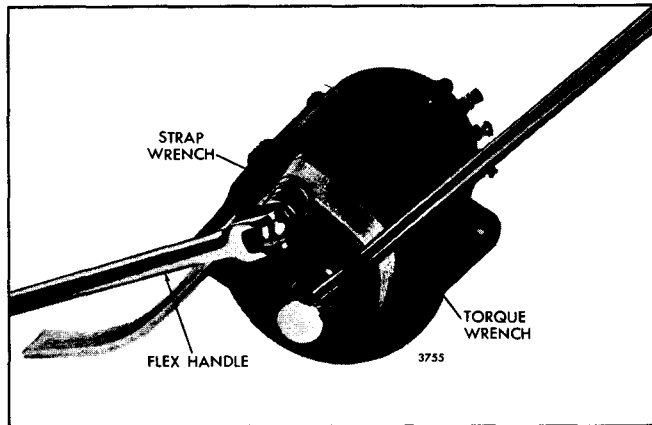

Fig. 3 - Tightening Alternator Pulley Retaining Nut
4. Remove the pulley assembly if the alternator is to be replaced (Fig. 3).
1. Install the drive pulley, if it was removed. Tighten the 5/8" – 18 pulley retaining nut to 70–80 lb–ft (95–108 N·m) torque (Fig. 3).